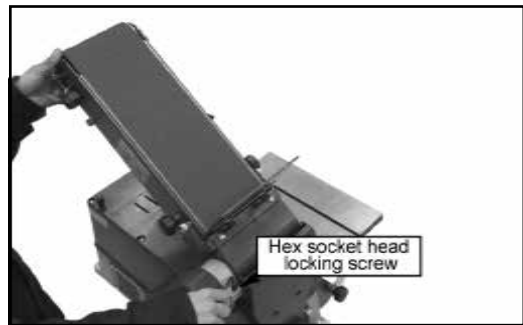

Fig. 13
2. Loosen the hex socket head locking screw using a 1/4 inch hex wrench. (See Fig. 13)